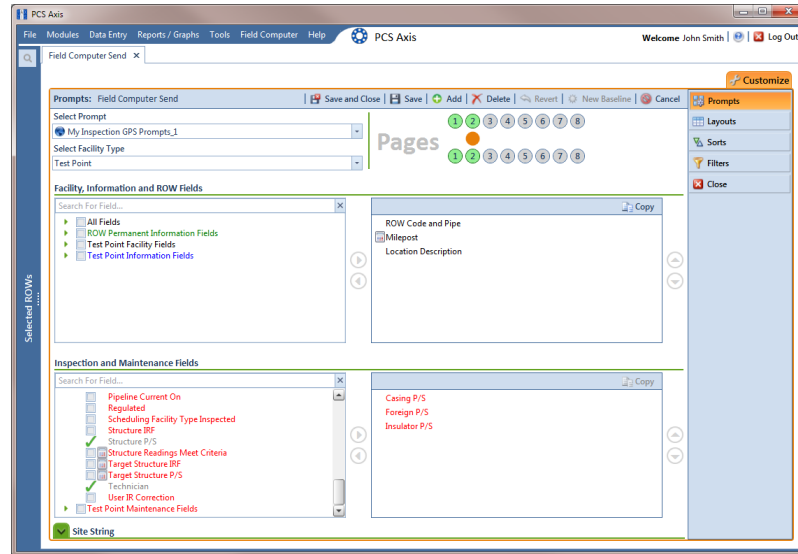

Figure 8-43. Prompts
- 17** If you have multiple pages of prompts, clicking a page number icon displays prompts for the selected page. For example, clicking  displays prompts set up in page 2 as shown in the following example (Figure 8-43).